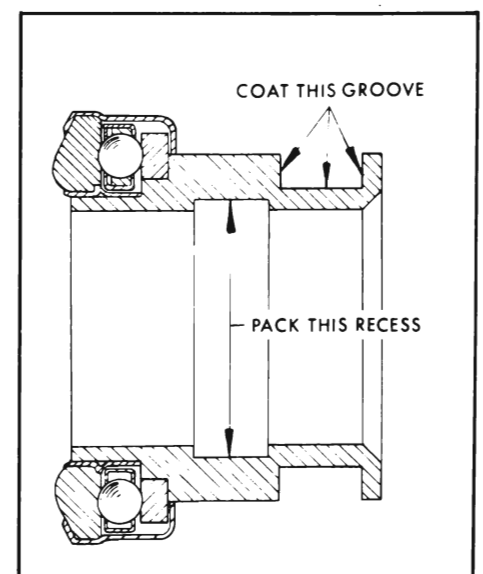

Figure 4-5—Throw-out Bearing Lubrication
3. Fill groove in throw-out bearing with wheel bearing lubricant (See Figure 4-5). Make sure transmission front bearing retainer sleeve is clean and apply a light coat of wheel bearing lubricant. Slide throw-out bearing over transmission retainer several times. Remove throw-out bearing and wipe off all excess lubricant pushed up by hub of bearing.
7. Lubricate the recess on the inside of the throw-out bearing collar and coat the throw-out fork groove with a small amount of wheel bearing grease. See Figure 4-5. Do not use too much lubricant.